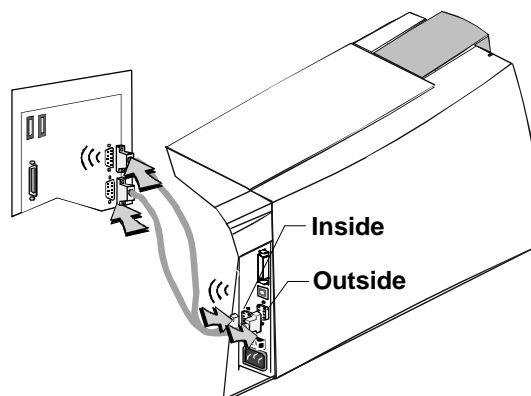

Figure 7-4: Connect the smart card serial cable
- 1 Connect the serial cable to the inside printer port (Figure 7-4) if a contact smart card module or a contact station is installed in the printer.
- 2 Connect the serial cable to the outside printer port (Figure 7-4) if a contactless (☺) module is installed in the printer.